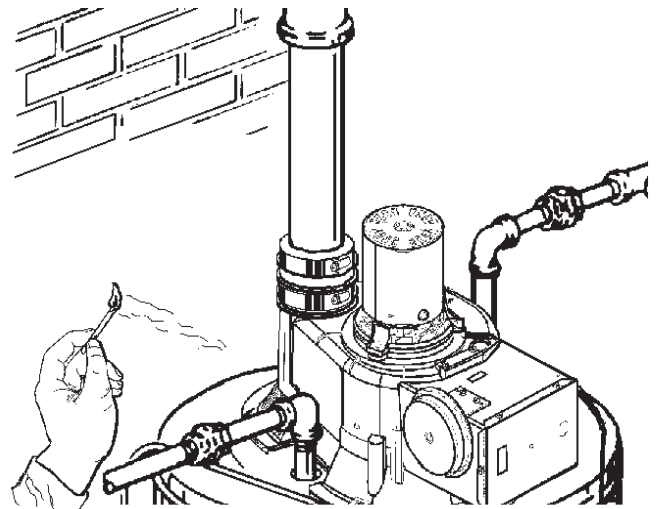

FIGURE 11
- C. "CHECKING THE DRAFT." Operate the water heater for several minutes and check to see if it is venting properly by passing a lit match or paper near the opening of the Air Mixing Box, see Figure 11. If the draft is proper, the match flame will be drawn into the Air Mixing Box. If not, the combustion products will tend to extinguish the flame. If an improper draft exists, do not operate the water heater until proper adjustments or repairs are made to provide adequate draft through the gas vent.